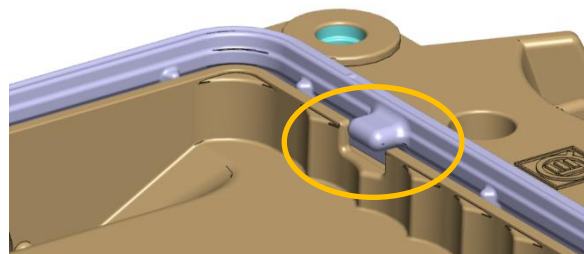

Figure 4 - Right position of the tap
- Please check for the correct position of the tab in the recess on the housing. (Figure 4 green marked)